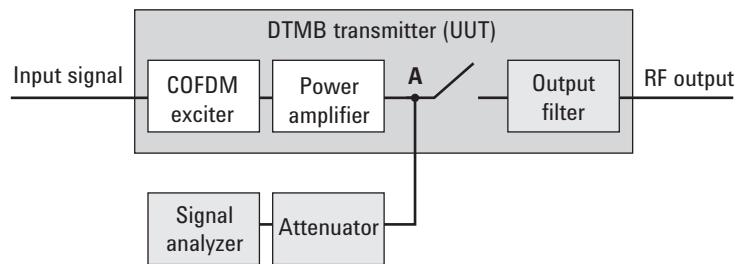

Figure 5. Diagram for spectrum mask measurement on DTMB (CTTB) transmitter without output filter
When the DTMB (CTTB) transmitter has an output filter, the diagram for the spectrum mask measurement is shown in Figure 5.
- B. Measure the signal transmitted at point A as shown in Figure 5.
- C. Apply amplitude correction on spectrum value measured in (2) using the filter's response from (1).